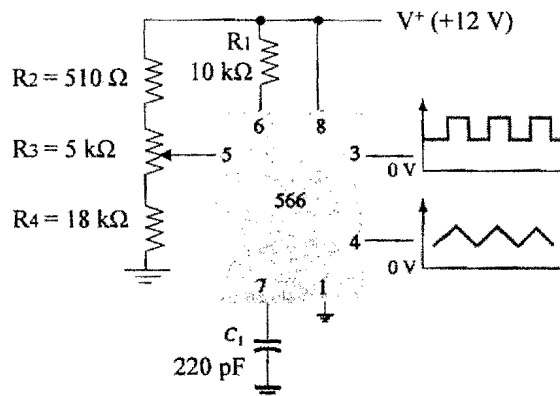

Figure 4
- (b) A voltage-controlled-oscillator (VCO) is a circuit that provides a varying output signal of square-wave or triangular-wave, whose frequency can be adjusted over a range controlled by dc voltage. Figure 4 shows a 566 connection as a VCO.